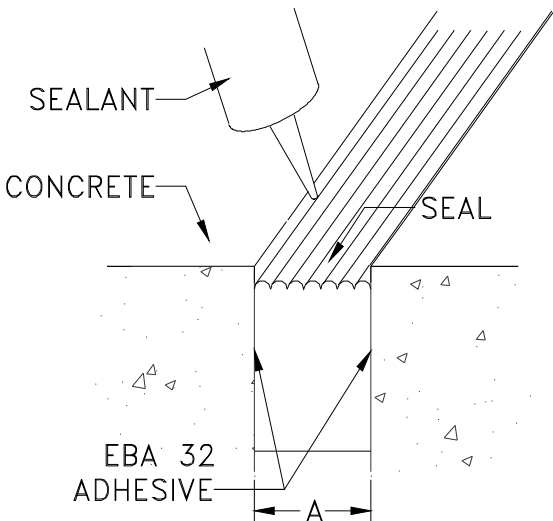

Figure 11
- STEP 12.** Select the traffic grade silicone sealant (by others). Apply a nominal 1/4 bead of sealant along each edge of the seal at its interface with the substrate (see Figure 11). Balco, Inc. recommend using Dow Corning 888 Silicone Joint Sealant (contact Dow Corning Corporation at (989) 496-6000 for availability and distributors).